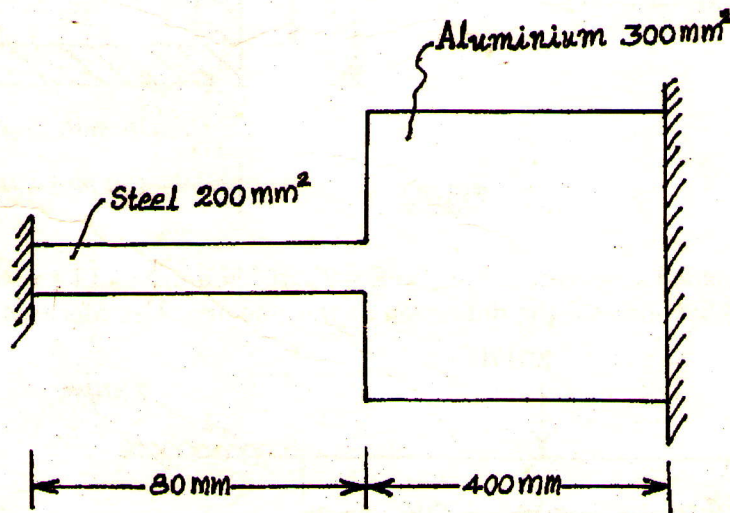

FIG. 1.
- II. (a) A composite bar made up of aluminium and steel is rigidly fixed between two supports as shown in Fig. 1. The bars are free of stress at 60°C . Find the stresses in the two bars when the temperature falls to 30°C if (i) the supports do no yield on (ii) the supports come nearest by 0.1 mm. Take E for steel and aluminium as $2.1 \times 10^5\text{ N/mm}^2$ and $0.7 \times 10^5\text{ N/mm}^2$ respectively. The coefficient of Thermal expansion for steel and aluminium are $11.7 \times 10^{-6}/^\circ\text{C}$ and $2.34 \times 10^{-6}/^\circ\text{C}$.